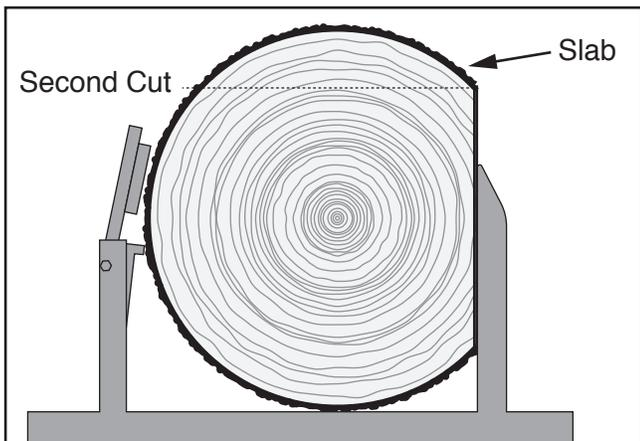

Figure 81. Cant rotated for second cut.
4. Rotate cant 90° and secure against log supports with log clamps to ensure cant is square to track (see **Figure 81**).